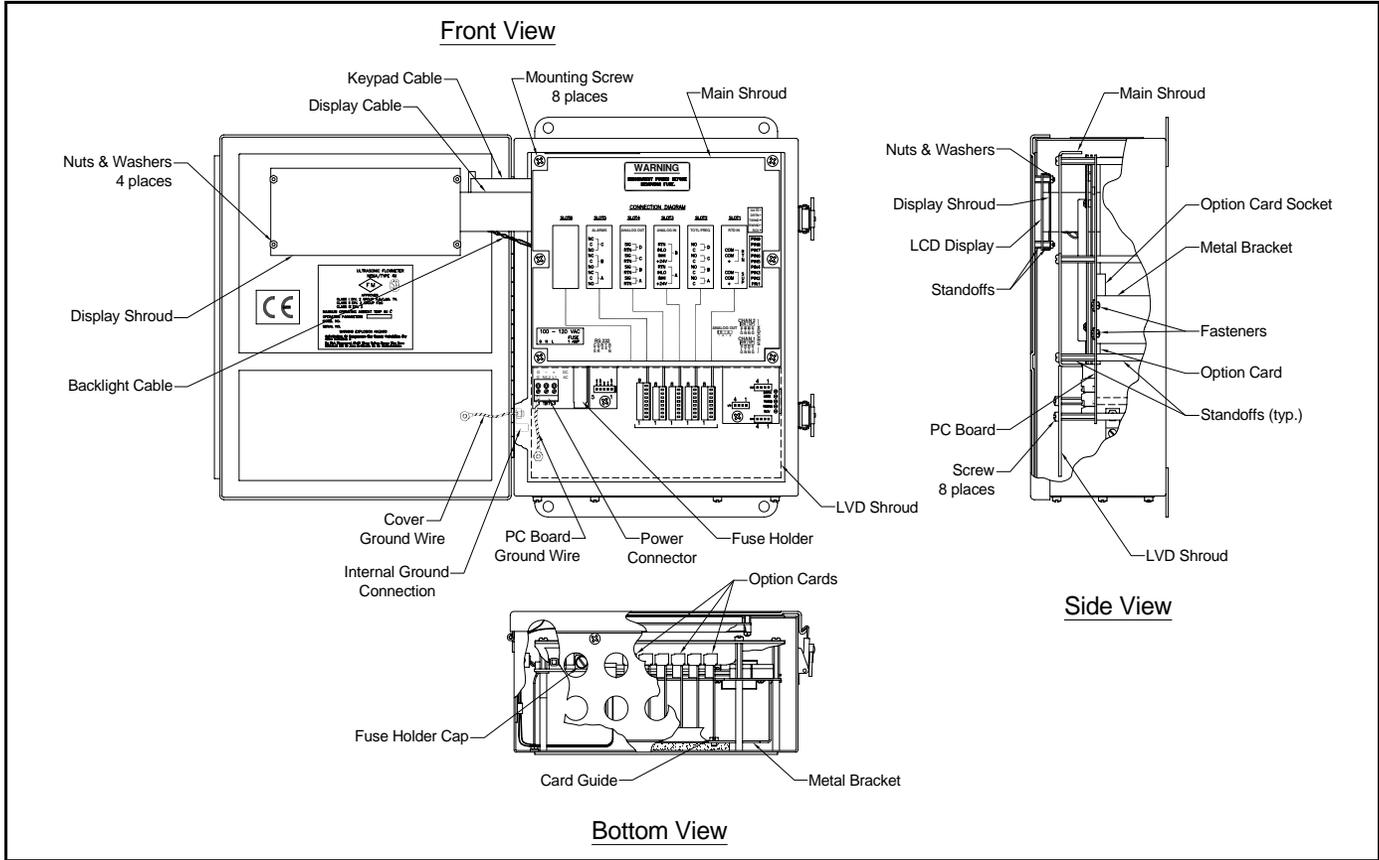
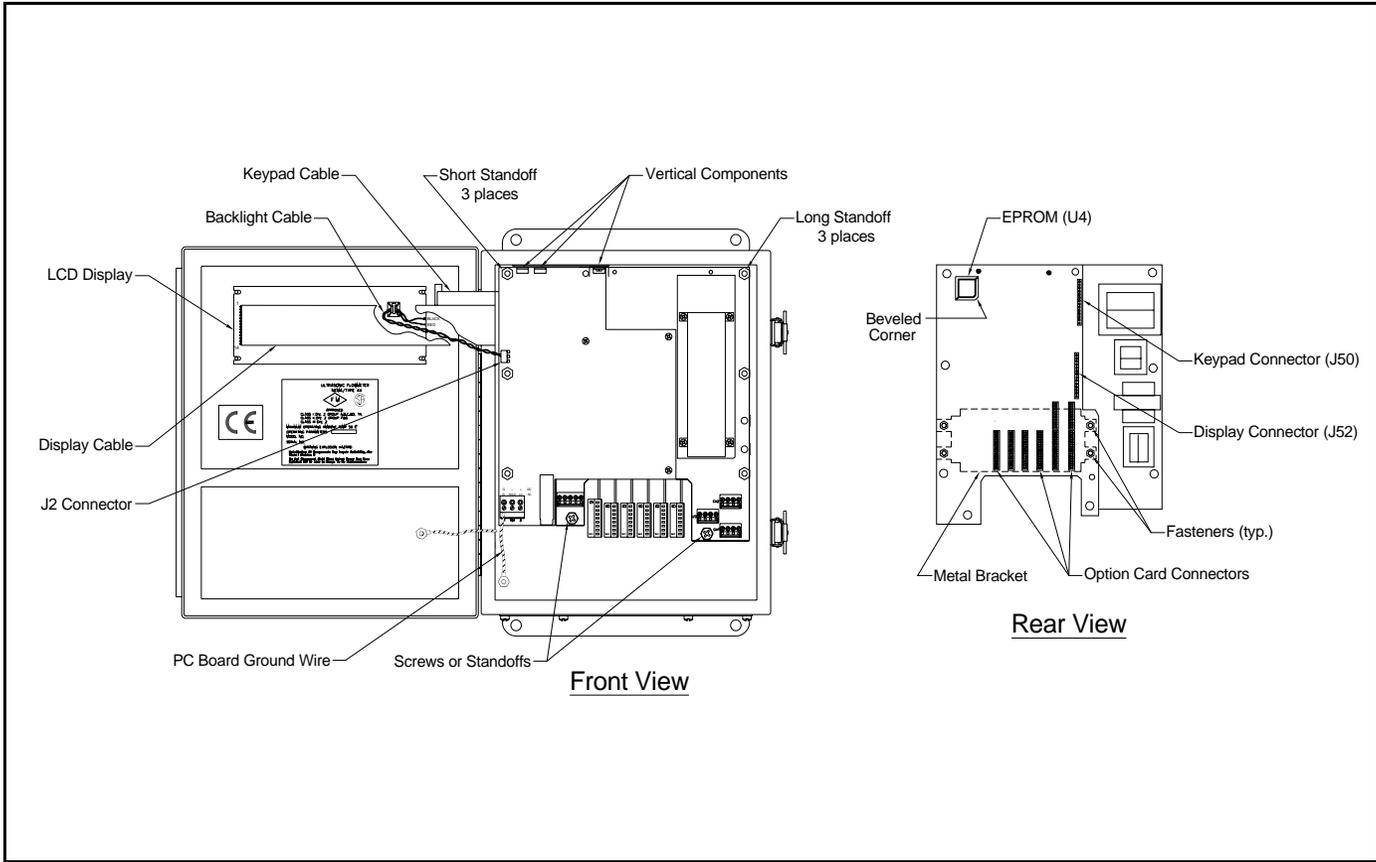

Figure 4-1: Standard Model GS868 - Electronics Console Assembly
Figure 4-2: Standard Model GS668 - Printed Circuit Board Assembly
All of the remaining procedures require removal of the printed circuit board. To accomplish this task, refer to Figure 4-1 on page 4-11 and Figure 4-2 on page 4-12 while completing the following steps:
Be very careful not to damage the vertical components along the top edge of the printed circuit board (see Figure 4-2 on page 4-12). Severe or repeated bending of these components will break their leads.
The Model GS868's *User Program* is stored on an erasable programmable read only memory (EPROM) chip. The EPROM, which is designated as component U4, is located in the top left corner of the rear of the printed circuit board. See Figure 4-2 on page 4-12 for a rear view of the printed circuit board.
To install an option card, refer to Figure 4-2 on page 4-12 and complete the following steps:
5. Place the metal bracket over the option cards, making sure that all option cards are aligned with the plastic card guides in the bracket. Secure the metal bracket to the printed circuit board with the plastic snap rivets provided. Refer to the installed assembly in Figure 4-1 on page 4-11.
The Model GS868's measurements are displayed on a two-pane LCD graphic display panel. The LCD display normally provides years of dependable service, but it is easily field-replaceable when necessary. To replace the LCD display, see Figure 4-1 on page 4-11 for the component locations, and complete the following steps:
4. Place the new LCD display assembly over the mounting studs on the console cover and fasten it in place with the four standoffs. Make sure that the LCD display assembly is oriented as shown in Figure 4-2 on page 4-12.
Whether the printed circuit board was removed for replacement or for one of the other procedures discussed in this chapter, reinstallation of the printed circuit board is the final step in the process. Refer to Figure 4-1 on page 4-11 and complete the following steps:
1. Position the printed circuit board within the electronics console with the top edge tilted forward. Insert the display ribbon cable and keypad ribbon cable connectors into their sockets on the rear of the printed circuit board. See Figure 4-1 on page 4-11 and Figure 4-2 on page 4-12 to identify the cables and sockets. Note that the keypad cable connects to the upper socket and the display cable connects to the lower socket.
During this procedure, be very careful not to damage the upright components along the top edge of the printed circuit board (see Figure 4-2 on page 4-12). Severe or repeated bending of these components will break their leads.